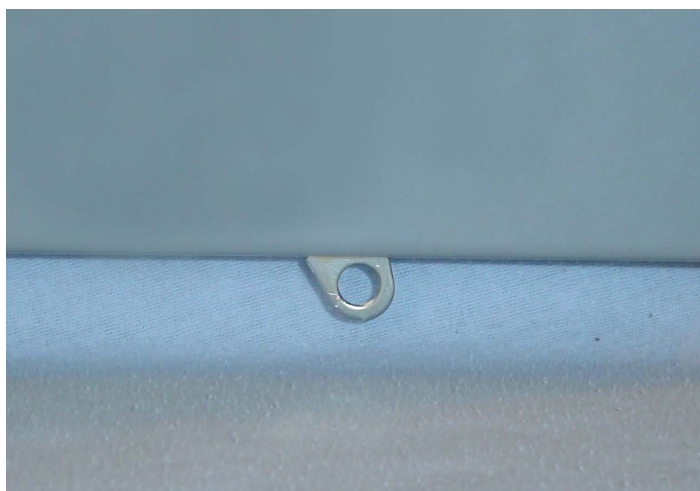

Figure 14. Location of the Door Latch.
Step 1: Depress the padlockable catch if applicable, at the bottom of the door and slide the door downward (see Figure 14). Open the door and remove the deadfront.